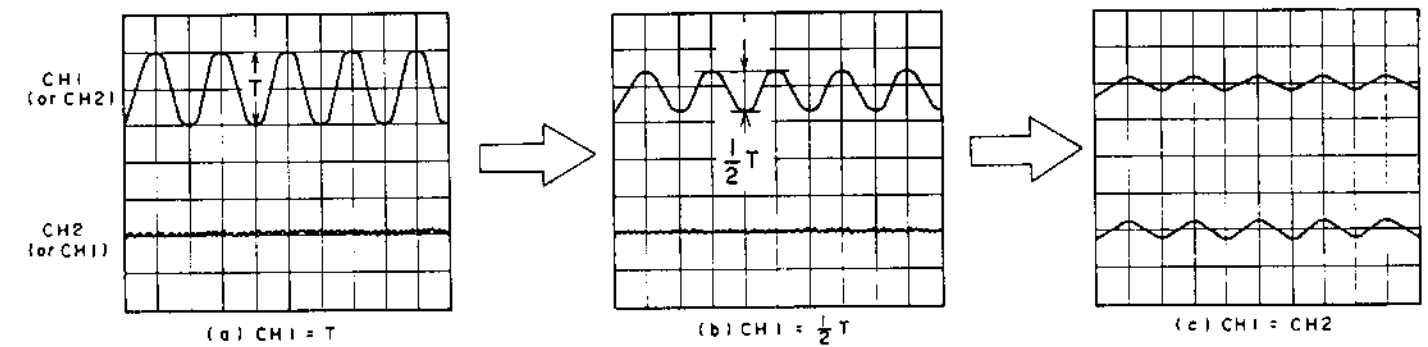

Fig. 5-12
- 3) Turn the hexagon screw to obtain 1/2 of the output level of either CH-1 or CH-2 whichever has an output signal as shown in Fig.5-12.